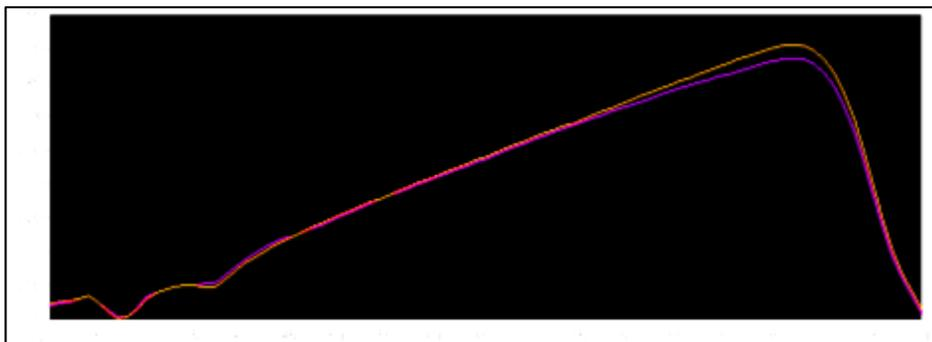

Figure 86: Detector Spectral Responsivity Changes.
- Determine if the calibrated detector requires recalibration. Spectral responsivity changes over time, particularly when the detector is subjected to UV light. The spectral responsivity plot (Fig. 86) is of the exact same detector, with calibration data taken five years apart. Newport suggests annual recalibration of detectors.